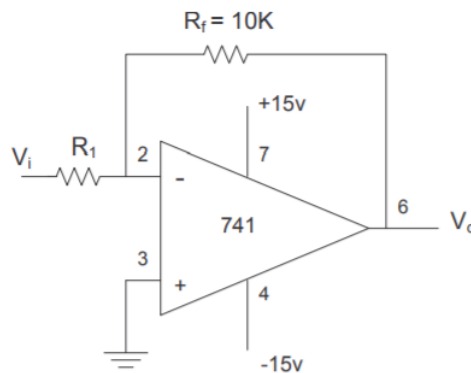

Figure 3-10 Inverting Amplifier
4. Construct the amplifier of Figure 3-10.